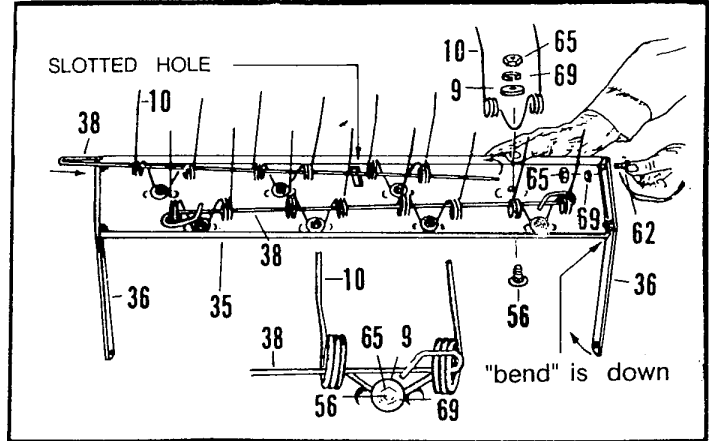
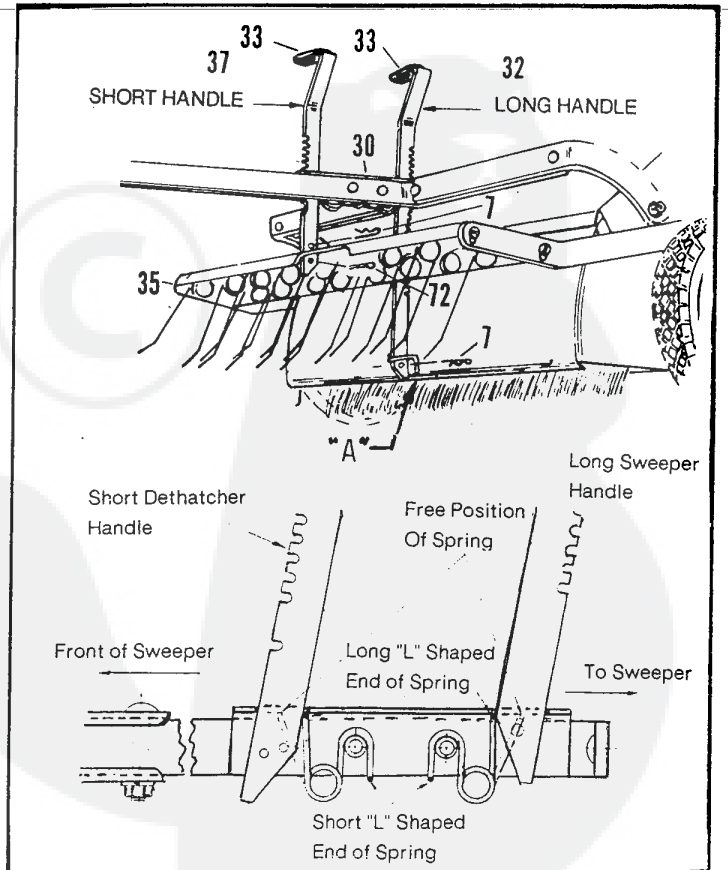

FIG. 2
FIG. 4
Note: If your unit is dethatcher equipped, proceed with Fig. 2. For Lawn Sweeper only, proceed to Fig. 4.
Refer to Fig 2
LOCK BAR SPRINGS Refer to Fig. 4
- While holding spring in place, push the (long) Sweeper Adjusting Handle (32) through the REAR slot in the Transport Lock Bracket (30) with the Notches Toward The Rear - the spring's "L" shaped leg will press against the smooth back edge of the Handle. Note: Make sure LONG leg of Spring stays at TOP of Transport Lock Bracket - AGAINST Lock Bar (See Insert Fig. 4).
- Secure with 1/8" x 2-1/2" Hairpin Cotter (7), using the hole at the bottom of Handle close to the "blunted" point.
- If your Sweeper is Dethatcher Equipped assemble the (short) Dethatcher Adjusting Handle (37), through slot in the front of the Transport Lock Bracket (30) in the same manner described above (Sweeper Adjusting Handle).
- Push the Handle through the slot located (in the center) at the front of the Tine Tray (35).
- Secure with a 5/32" x 1-1/4" Cotter Pin (72) through the bottom hole (bend legs over).
- Insert a 1/8" x 2-1/2" Hairpin Cotter (7) through the hole, above the top of the tray, as shown. This prevents the tray from bouncing up during dethatching.
- Push one Handle Grip (33) on Sweeper Handle (32), and one on the Dethatcher Handle (37), if your Sweeper is Dethatcher equipped.
Refer to Fig. 4